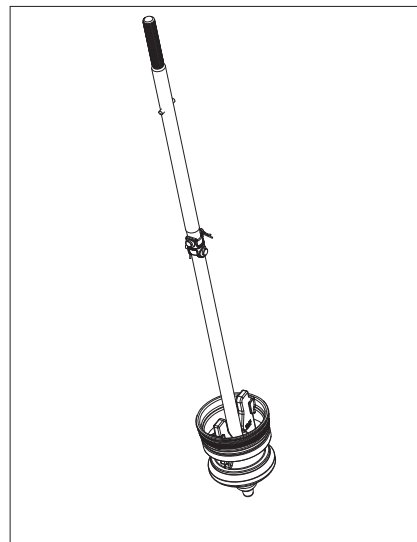

Fig. 7H
8. Remove tool and set aside. Lift and remove the Upper Stem Rod / Lower Stem Rod and Main Valve Assembly from the Lower Barrel (F49). (See Fig. 7H)